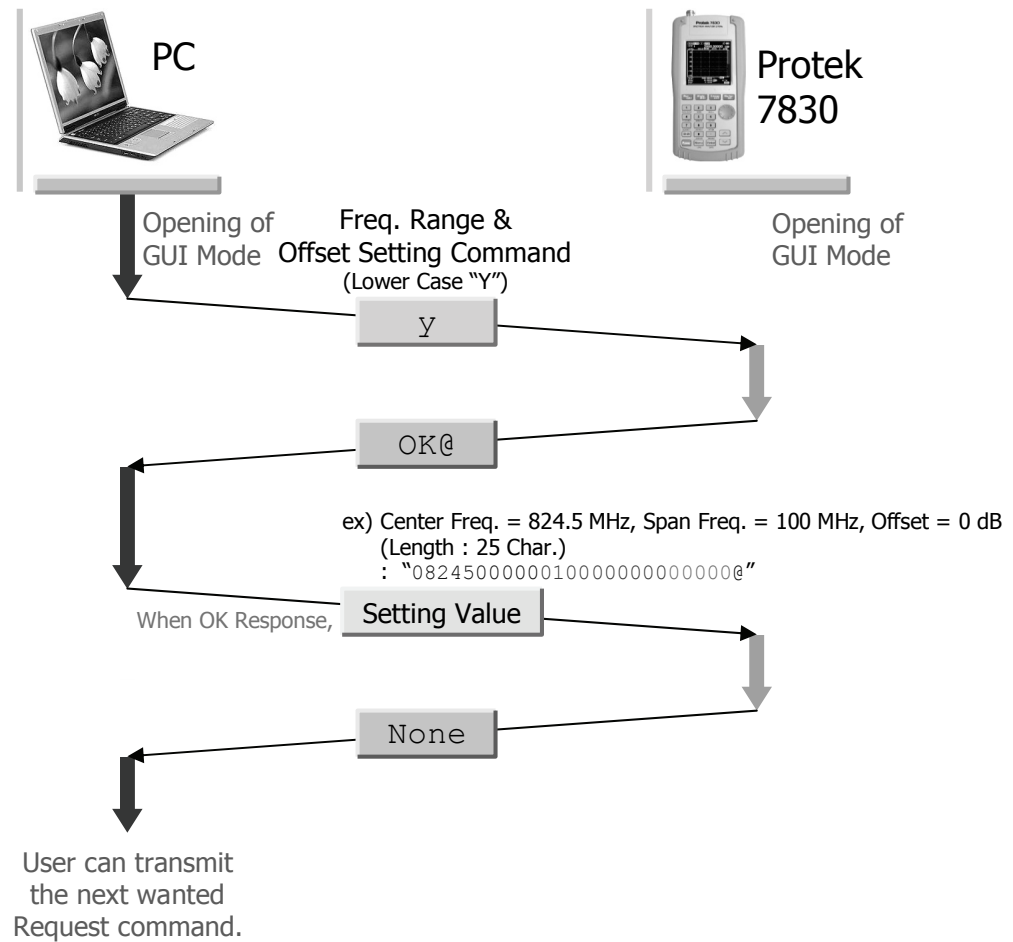

Figure 5.4. "Setting of Frequency range and Offset" Protocol
- 3) The user can use the function of Protocol as below. Refer Figure 5.4.